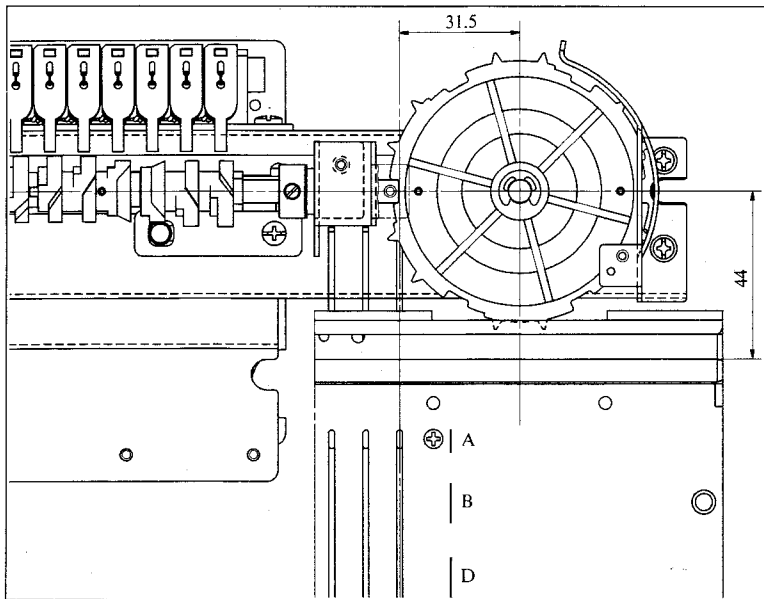

Figure 12-14
4.3 Adjust the center of the bevel gear Z32 so that it has the same relationship as in the above figure 12-14 and tighten the center and right stays.